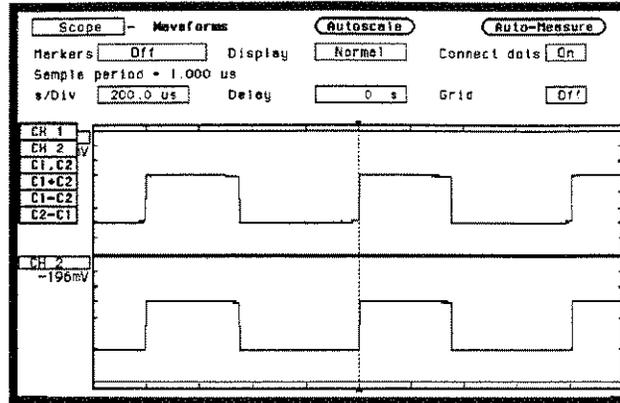

Figure 23-11. Channel Mode Pop-up
1. Select CH 1 label field, then select **Insert waveform**. A channel mode pop-up will appear. See figure 23-11.